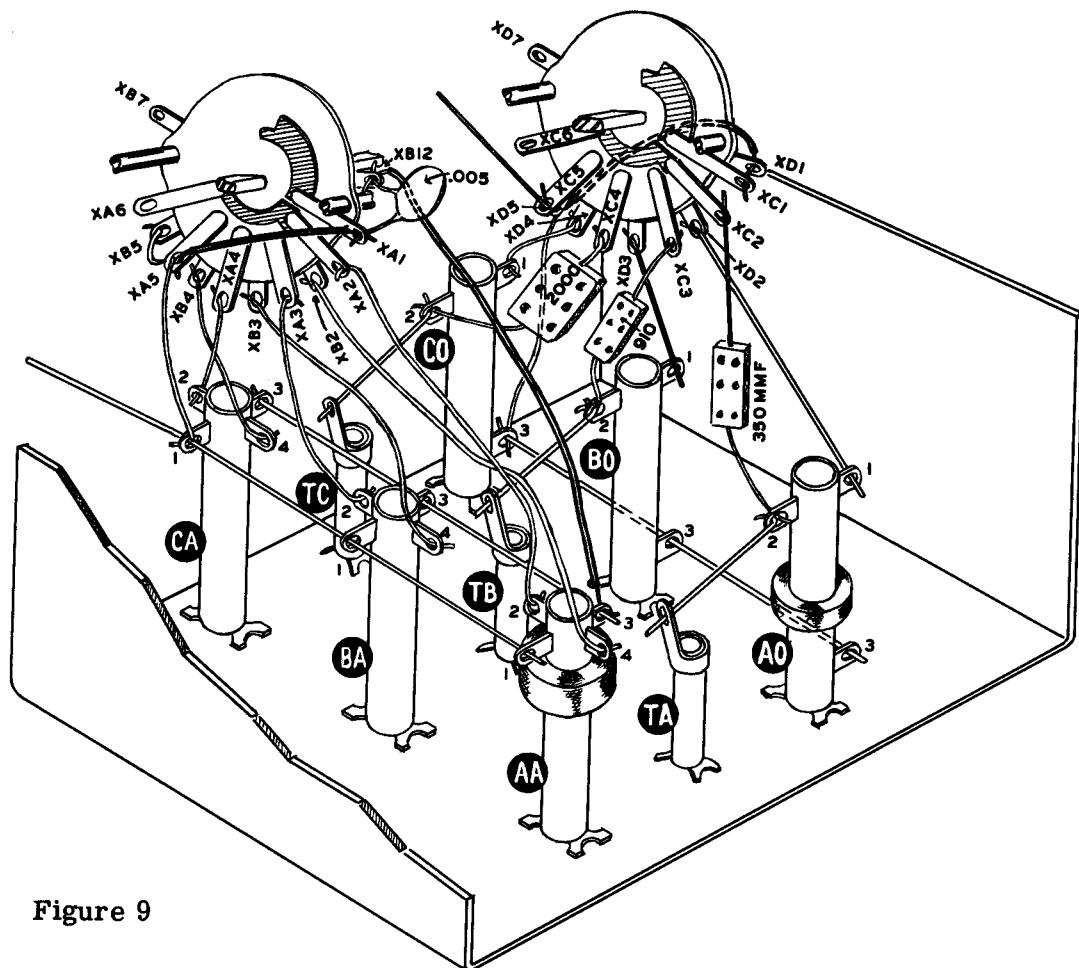

Figure 9
- ( ) Connect a bare wire from TA (S) to AO2 (NS).
- ( ) Connect a bare wire from TB (S) to BO2 (NS).
- ( ) Connect a bare wire from TC (S) to CO2 (NS).
- ( ) Cut one lead of a  $350 \mu\text{uf}$  mica capacitor (orange-green-brown) to 5/8". Connect to AO2 (S). Leave the other end free.
- ( ) Cut one lead of a  $910 \mu\text{uf}$  mica capacitor (white-brown-brown) to 5/8". Connect to BO2 (S). Leave the other end free.
- ( ) Cut one lead of a  $2000 \mu\text{uf}$  mica capacitor (red-black-red) to 5/8". Connect to CO2 (S). Leave the other end free. Use care when connecting the lead to the coil terminal to prevent breakage due to the heavier lead wire used.
- ( ) Mount the bandswitch X as shown. Do not tighten securely as the nut will be removed later when mounting the coil and switch assembly in the receiver. See Figure 9.
NOTE: Contact lugs on the front face of the switch wafer nearest the panel are numbered XA1, XA2 etc. Contact lugs on the rear face of this wafer have XB numbers. Lugs on the rear wafer have XC and XD numbers. See Figure 9 for detailed numbering.